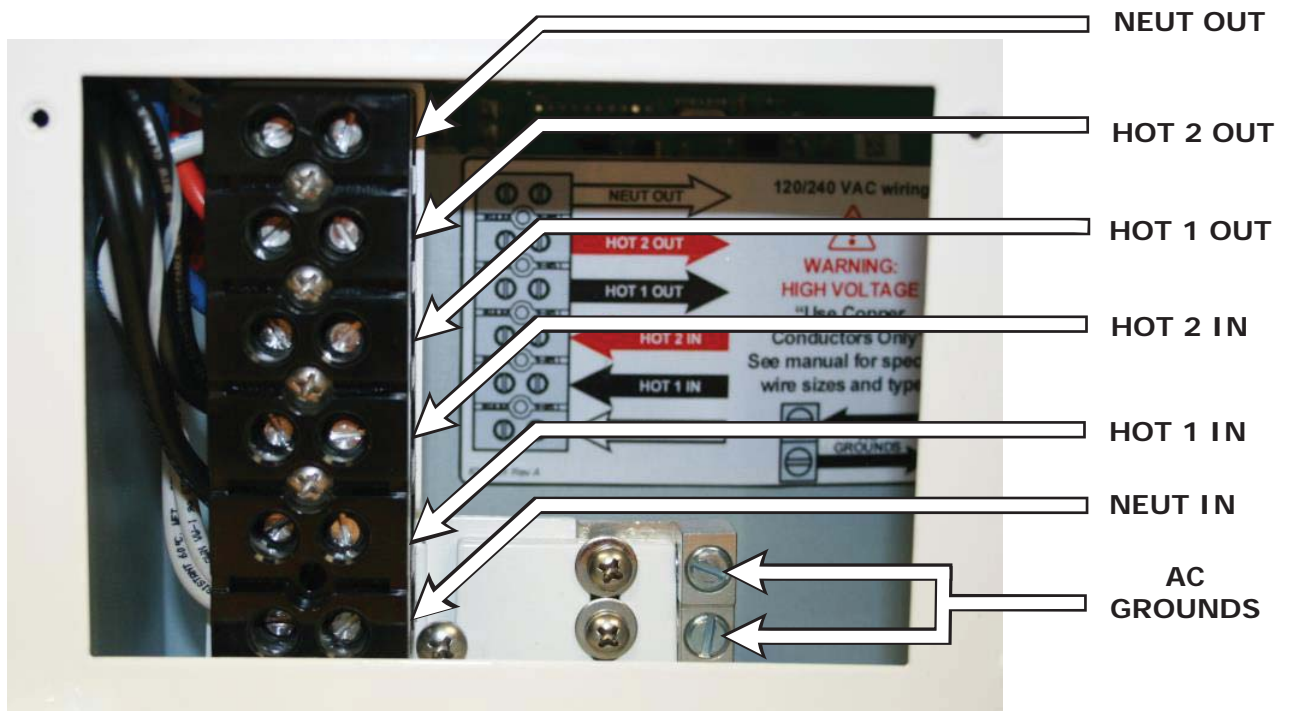

Figure 2-8, MSH3012RV AC Terminal Block
The MSH3012RV has a six-pole AC terminal block and two AC ground terminals to connect the inverter's AC input/output wiring. This terminal block (Figure 2-8) allows a service/distribution panel (main panel) to be wired to the inverter's input, and also a dedicated panel (sub-panel) between the inverter's output wiring and the AC loads. To access the AC terminal block and ground terminal, remove the two Phillips screws holding the AC wiring access cover plate (Figure 1-3, Item 16).
Remove the two Phillips screws on the AC wiring access cover (Figure 1-3, Item 16) to access the internal AC terminal block (see Figure 2-8).
**AC Side** – The AC equipment grounding conductor (EGC-AC) is sized per Table 2-4 and is connected to the inverter’s AC equipment grounding terminal shown in Figure 2-8.